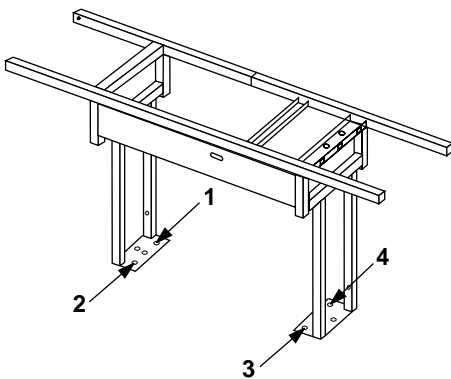

Figure 11
**⚠WARNING: Whichever method used, the base must be bolted down (anchored) at a minimum of four anchoring points (two per side) prior to barbecue assembly. One anchor in each corner of the base plate. Figure 11.**